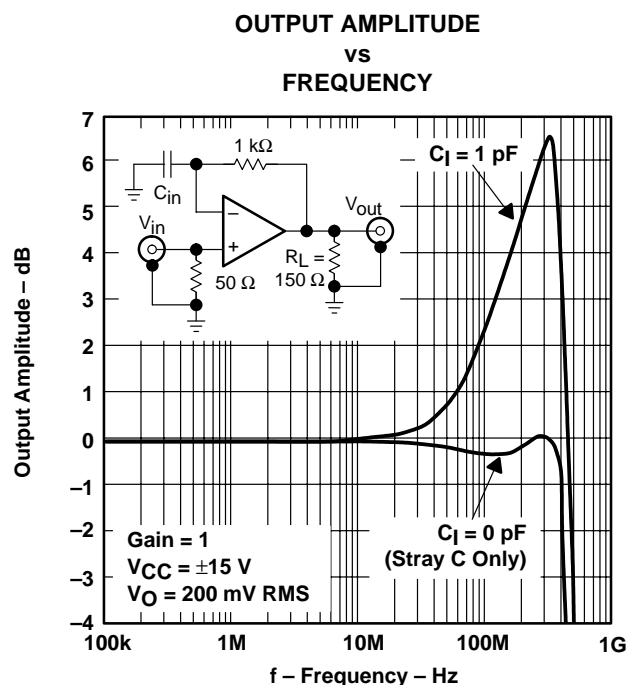
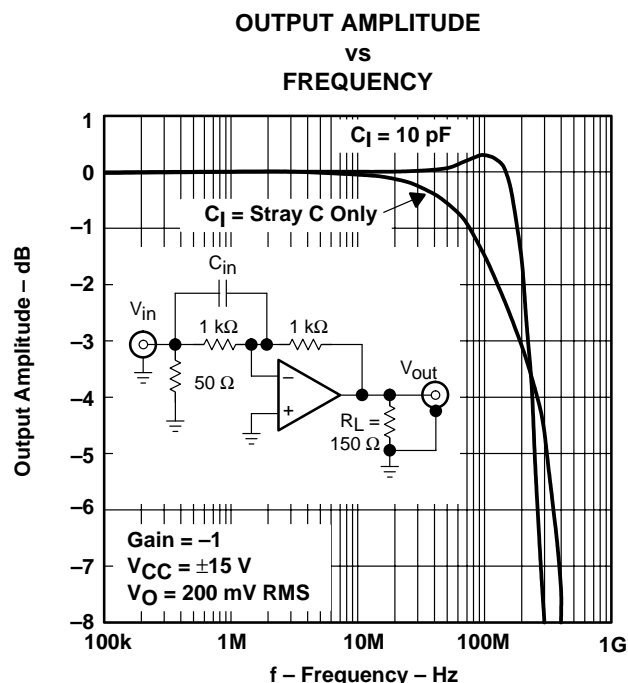

Figure 54
Figure 55
- **Input stray capacitance** – To minimize potential problems with amplifier oscillation, the capacitance at the inverting input of the amplifiers must be kept to a minimum. To do this, PCB trace runs to the inverting input must be as short as possible, the ground plane must be removed under any etch runs connected to the inverting input, and external components should be placed as close as possible to the inverting input. This is especially true in the noninverting configuration. An example of this can be seen in Figure 54, which shows what happens when a 1-pF capacitor is added to the inverting input terminal. The bandwidth increases at the expense of peaking. This is because some of the error current is flowing through the stray capacitor instead of the inverting node of the amplifier. Although, while the device is in the inverting mode, stray capacitance at the inverting input has a minimal effect. This is because the inverting node is at a *virtual ground* and the voltage does not fluctuate nearly as much as in the noninverting configuration. This can be seen in Figure 55, where a 10-pF capacitor adds only 0.35 dB of peaking. In general, as the gain of the system increases, the output peaking due to this capacitor decreases. While this can initially look like a faster and better system, overshoot and ringing are more likely to occur under fast transient conditions. So proper analysis of adding a capacitor to the inverting input node should be performed for stable operation.